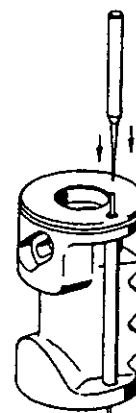

Fig.12
7.3.1 Versions with caulked valve insert (109) - steering limiter valve
Position piston (101) upright so that the caulking on valve insert (109) points upwards (*Fig.12*).